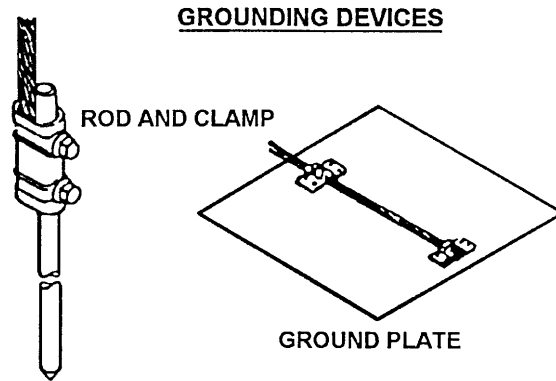

Figure 22
1. Should not be less than 1/2 inch (12.7mm) in diameter and 8 feet (2.4m) long, see Fig. 22 below.